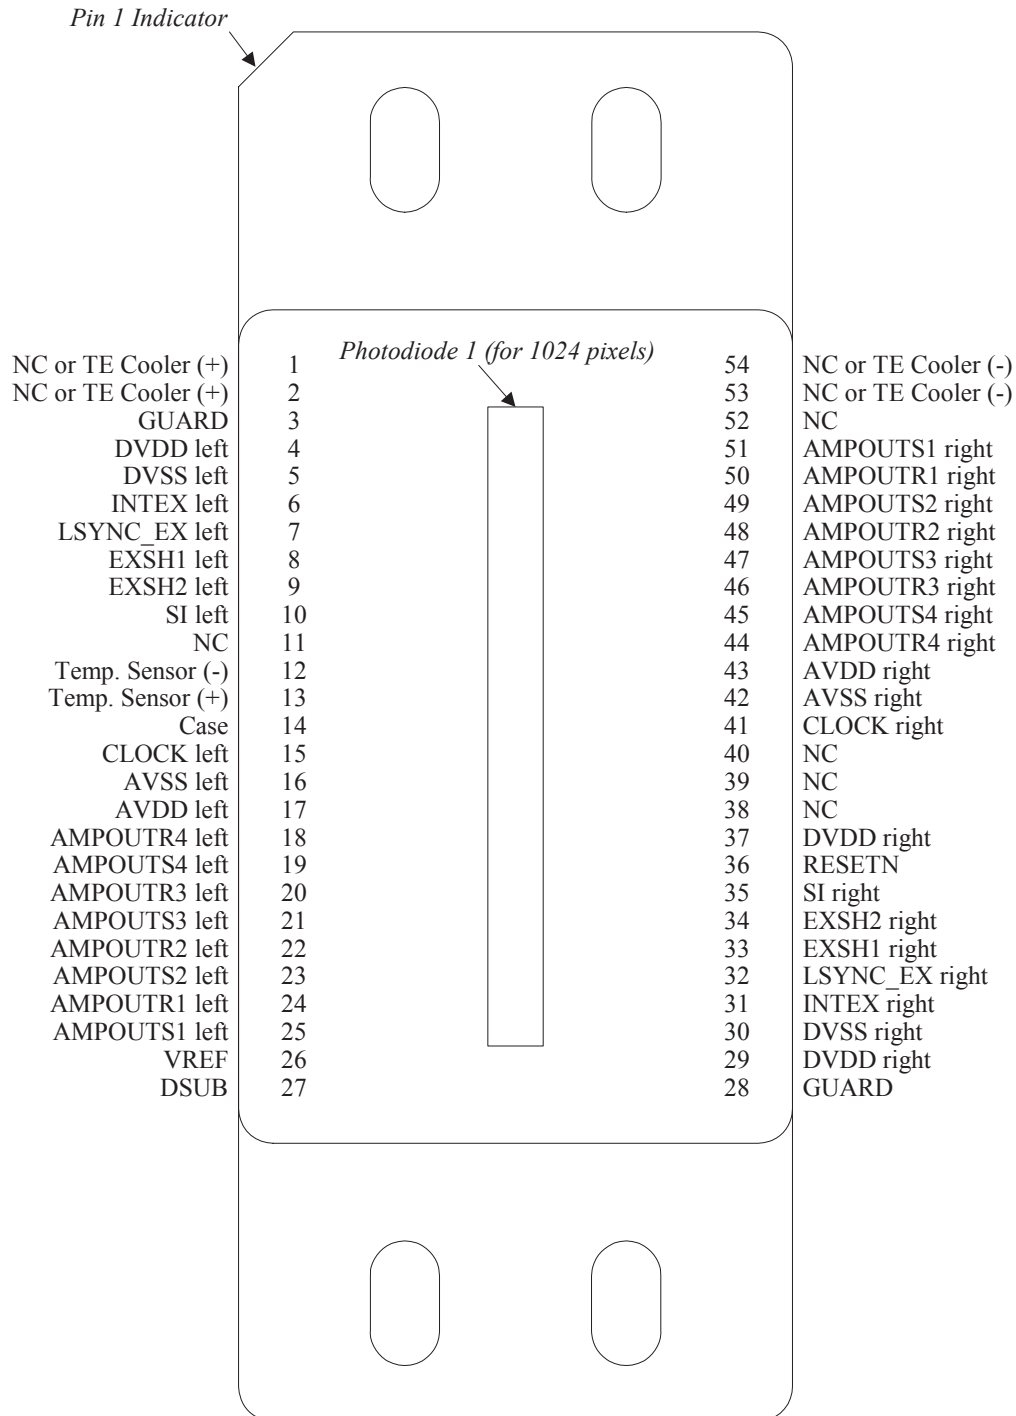

Figure 11. Pin diagram, top view.
The pin assignments are listed in Table 9 and shown in Figure 11. Unused inputs (NC) should be left unconnected.